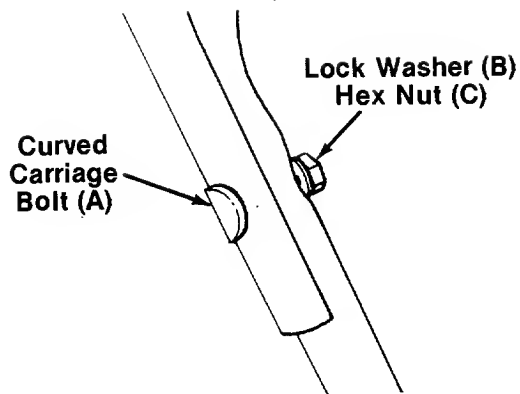

FIGURE 3.
4. Place upper handle in position over lower handle. Control housing should be on the **left** side of the handle. Secure upper handle with two curved carriage bolts (A), lock washers (B) and hex nuts (C). See figure 3.